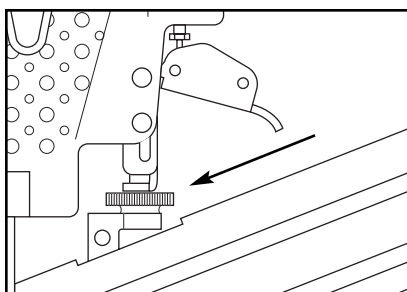

Figure 5. Depth adjustment knob.
5. Turn the knob clockwise to drive the nail deeper, or counterclockwise if the nail is going too deep. (**Figure 5.**)